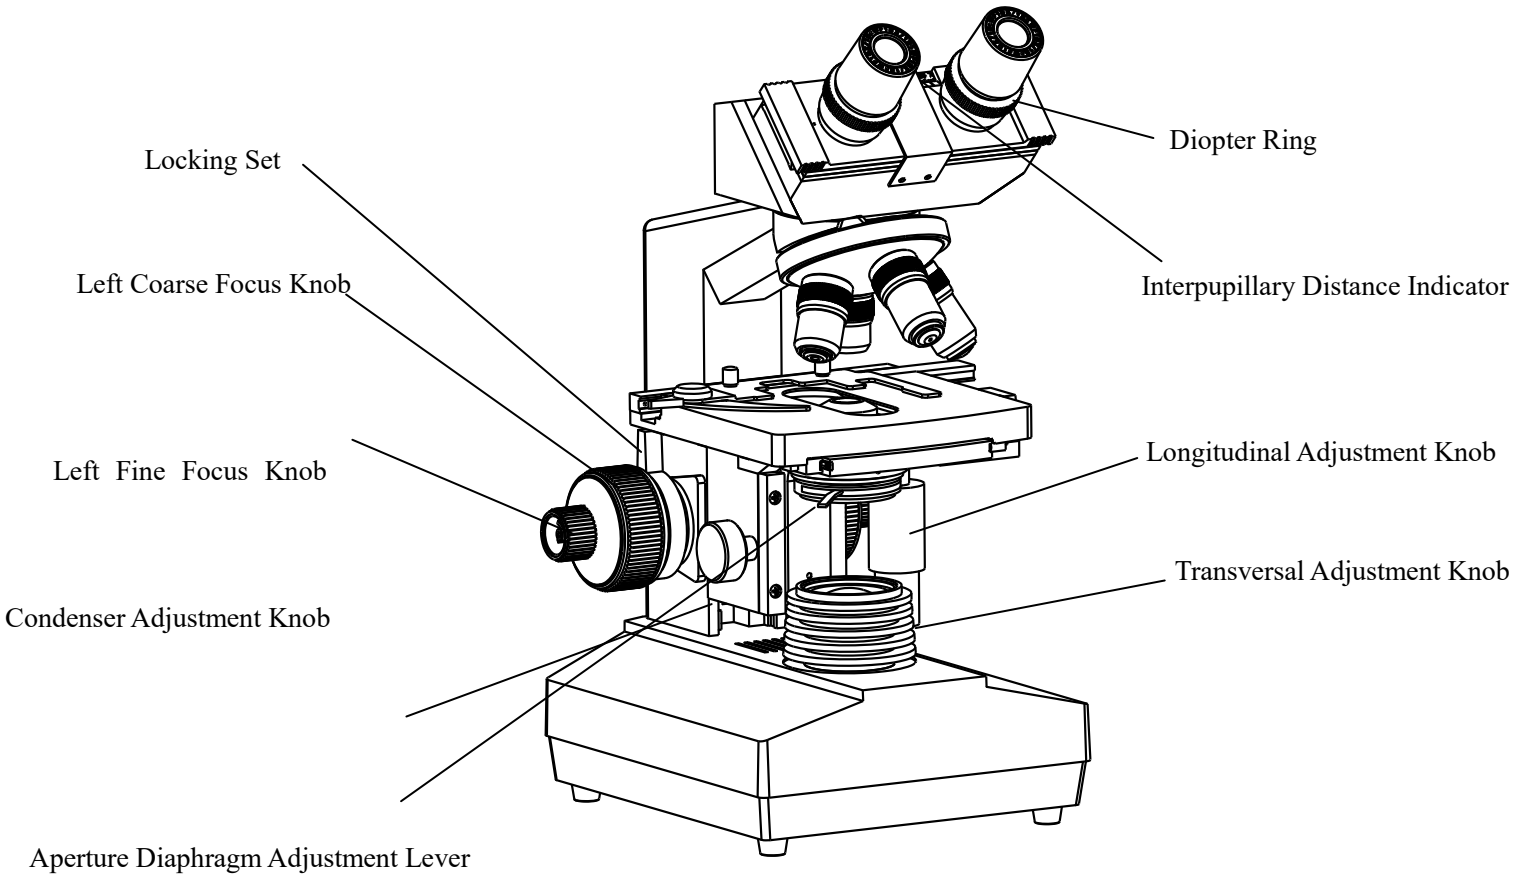
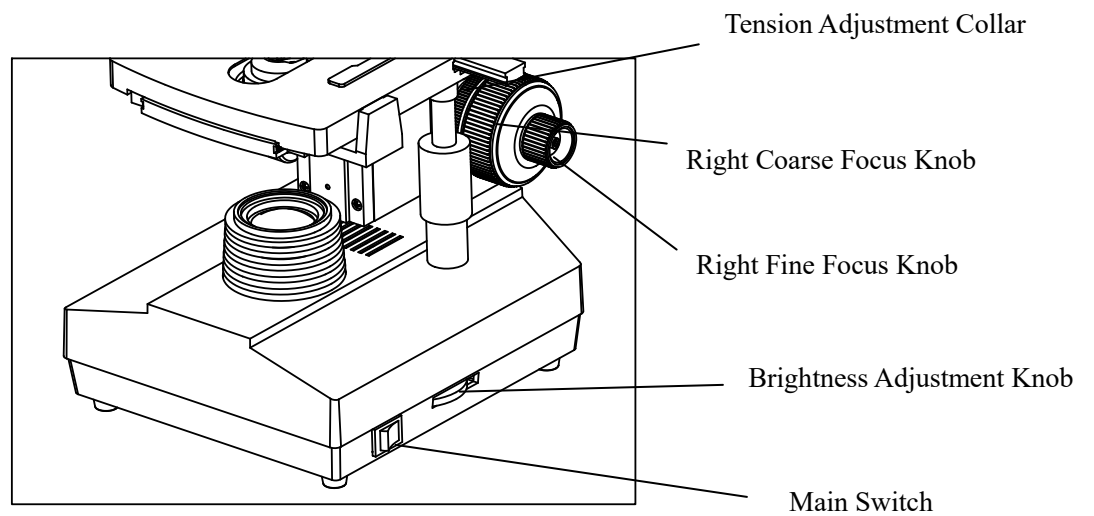

Fig.14
Fig.15
3.1 Adjustment Sets (Fig.14, Fig.15)
2. Turn the coarse focus knob ① conversely to lower the specimen and search images in the 10×ocular simultaneously, and then use the fine knob ② to make focus. After that, you can replace with other magnification objectives safely, and focus without the risk of damaging the specimen.
3. When the specimen is focused, tighten the locking set (in Fig.14) to give a height limit to the stage. In this way, the stage only can lower, avoiding false operation and damage to the specimen.